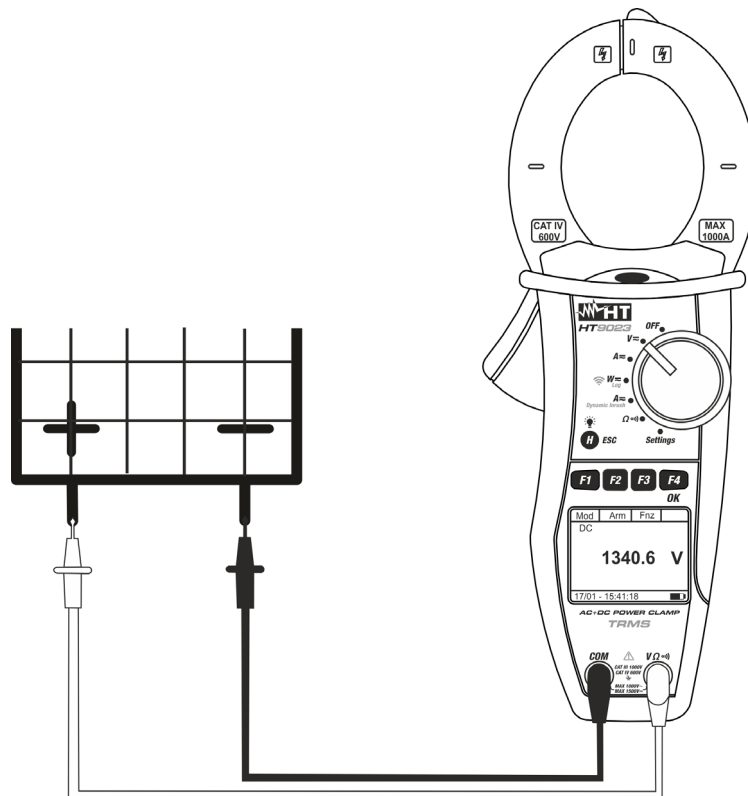

Fig. 5: DC Voltage measurement
4. Connect red cable to input lead **VΩ[~]** and black cable to input lead **COM** then position the leads at the desired points of the circuit under test (see Fig. 5)